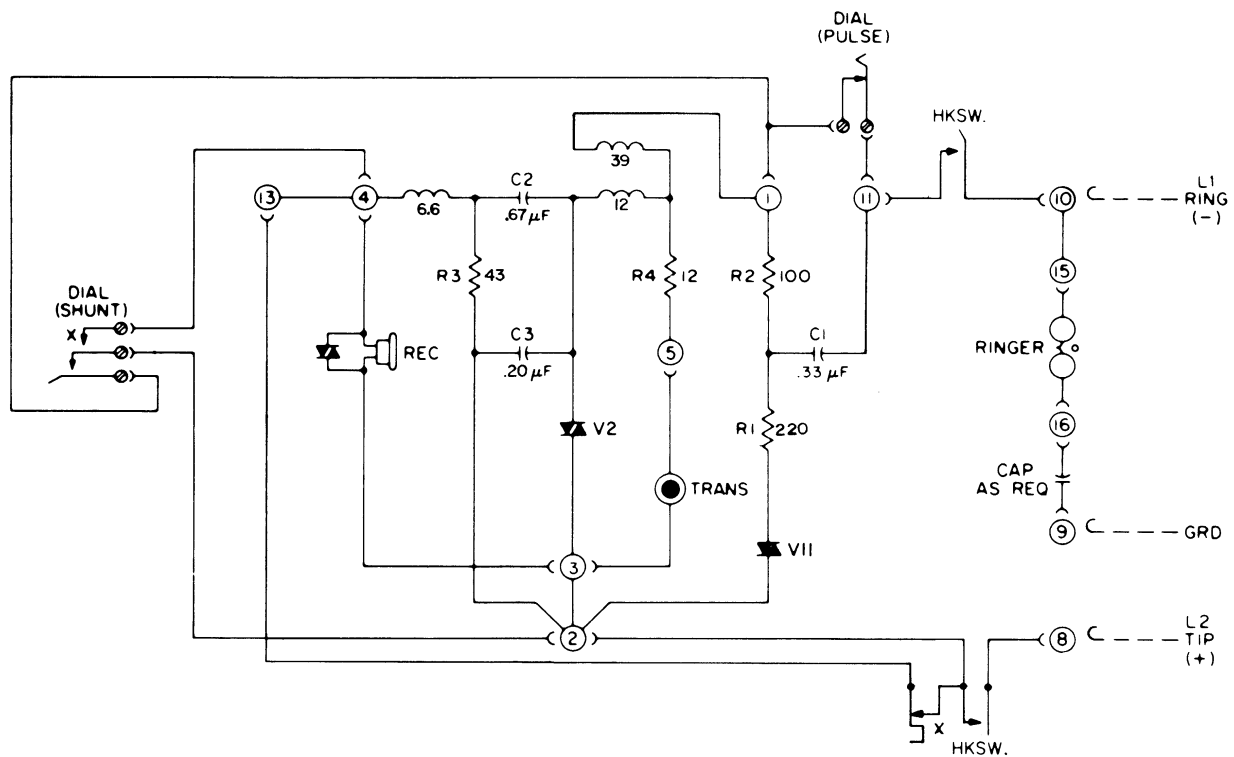
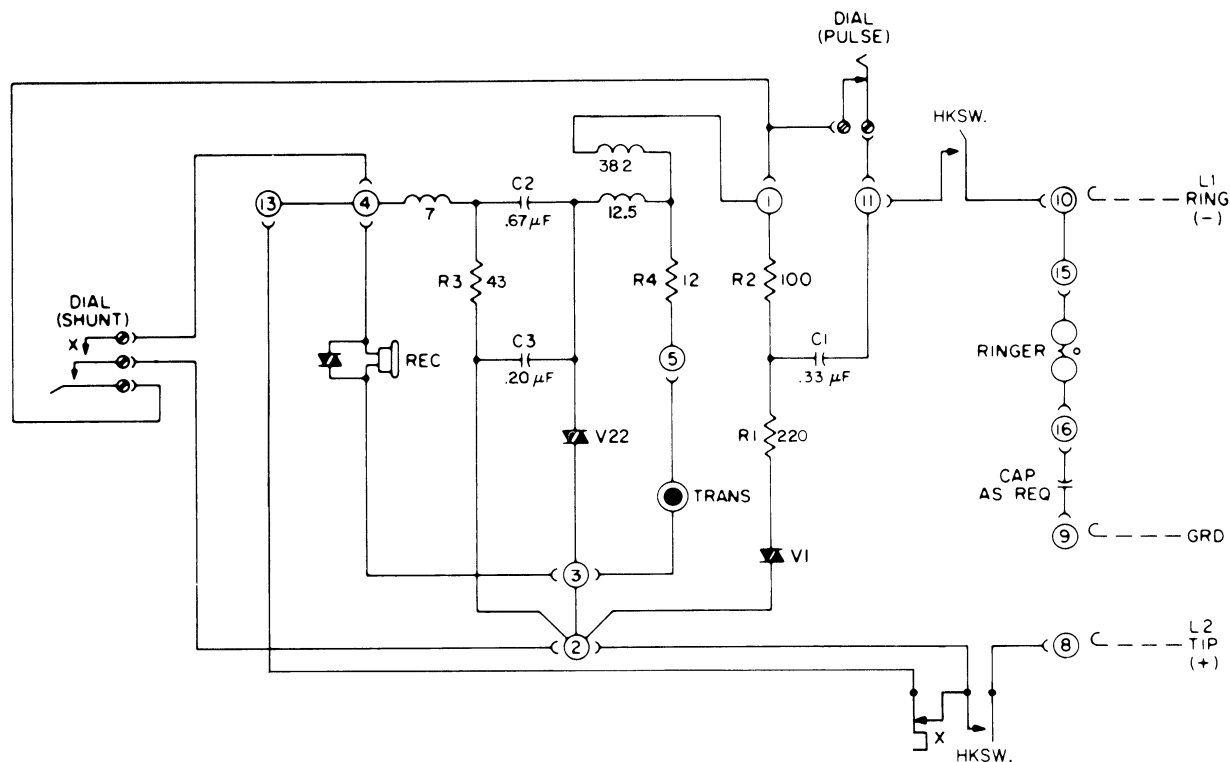
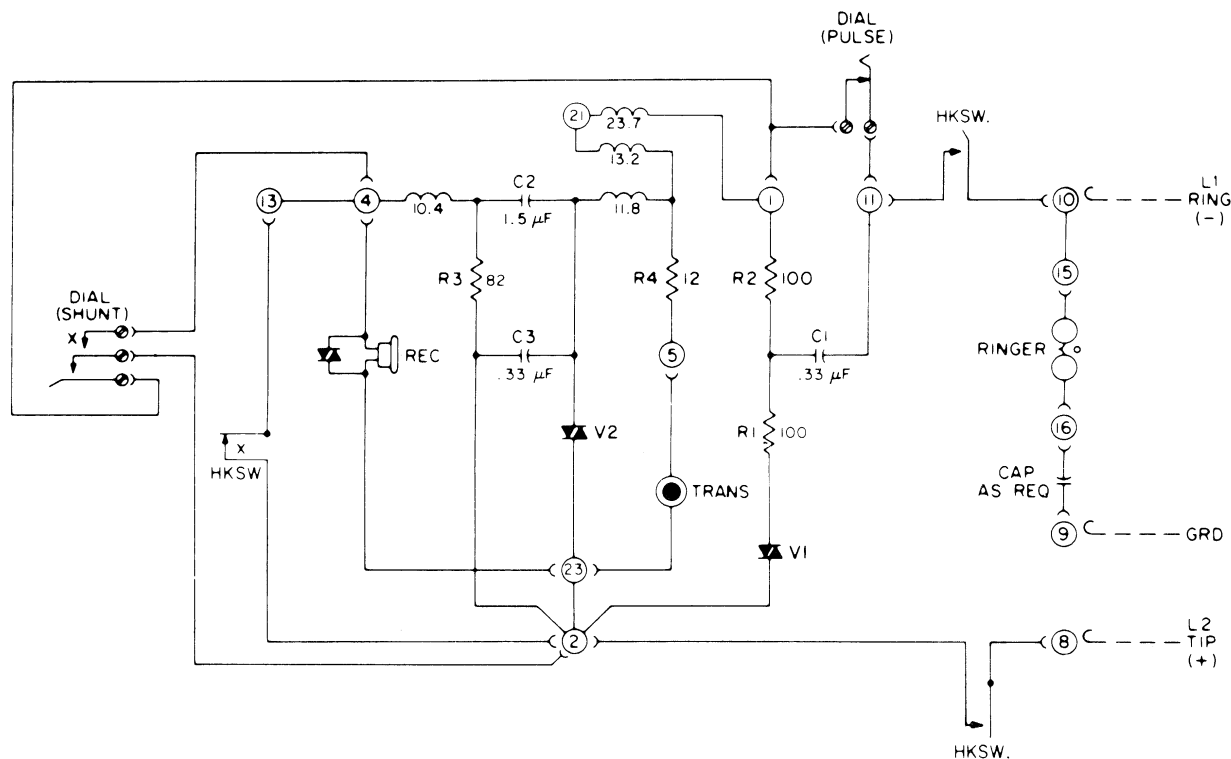
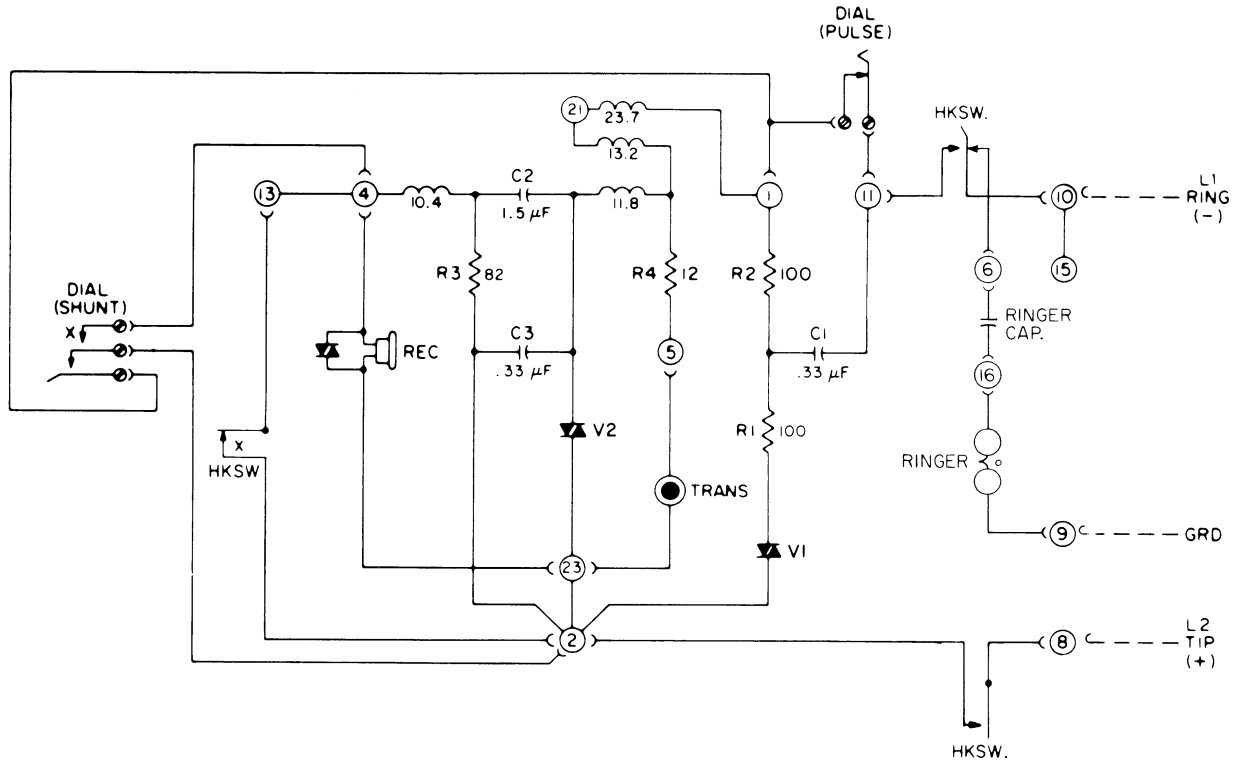

Figure 4. Schematic Diagram of Type 95 Set Equipped With Early Issues of WA-1120-A Network.
Figure 5. Schematic Diagram of Type 95 Set Equipped With Later Issues of WA-1120-A Network (Small Induction Coil).
Figure 6. Schematic Diagram of Type 95 Set Equipped With WA-1154-A Network (NC Series on Early Component Mounting Plate).
Figure 7. Schematic Diagram of Type 95 Set Equipped With WA-1154-A Network (NC Series on Later Component Mounting Plate).
Types 10A1, 10A2 and 16A key telephone systems, and cannot be used to provide ringer ground identity mark at tip party stations in ANI exchanges. Provision of an individual lead per spring on early NC-series sets (see Figure 6) permits this assembly to be used for A-lead control. On NC-series sets manufactured subsequent to the offering of the Touch Calling option, a standard seven spring, seven-lead hookswitch assembly is provided, as shown schematically in Figures 7 and 9. In order to clear the chromed handset hanger on installation and removal, a large rectangular opening is required in the faceplate. To fill this opening when the faceplate is in place, a brushed aluminum cover plate is loosely attached to the component mounting plate behind the hanger and is slotted to fit around the shank of the hookswitch actuator.
2.04 Two tapped studs on the rear side of the lower left corner of the component plate provide for mounting the printed-circuit board version of transmission network, insulated from the panel by an L-shaped styrene bracket. On early NB-series sets the WA-1063-A network board, with a $1\mu\text{F}$ capacitor in the dial pulse contact arc suppression filter, was used, but later instruments in this series were assembled with the WA-1120-A network using a $.33\mu\text{F}$ capacitor in the dial filter as shown in Figure 4. Early issues of this network had the same coil as on the WA-1063-A, but a smaller coil was later adopted and involved some changes in winding values, as shown in Figure 5. With both of these networks a Type 810 handset was provided, the J-hook strain relief of its cord secured in a piercing at the lower left corner of the mounting plate. NC-series sets use the WA-1154-A network (see Figures 6 and 7) for dial service, or the WA-1155-A network in the Touch Calling option, where no dial filter capacitor is provided (see Figure 9). Figure 8 shows a schematic for an NB-Series Type 95 set equipped with an old Touch Calling unit. For replacement purposes the WA-1154-A board may be used in either service. On this series the Type 811 handset is furnished. With either handset, a white rubber grommet